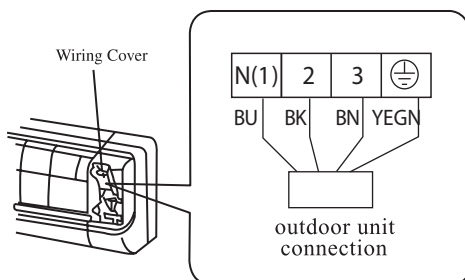

Fig. 6
2. Remove the wiring cover Fig 6.